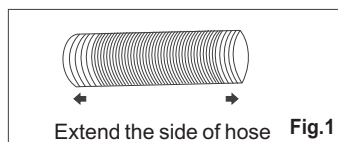
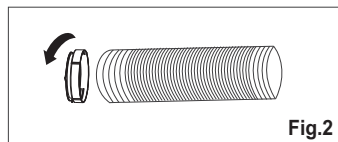

Fig.1
Fig.2
1. Extend either side of the hose (Fig.1) and screw the hose to connector A (Fig.2).